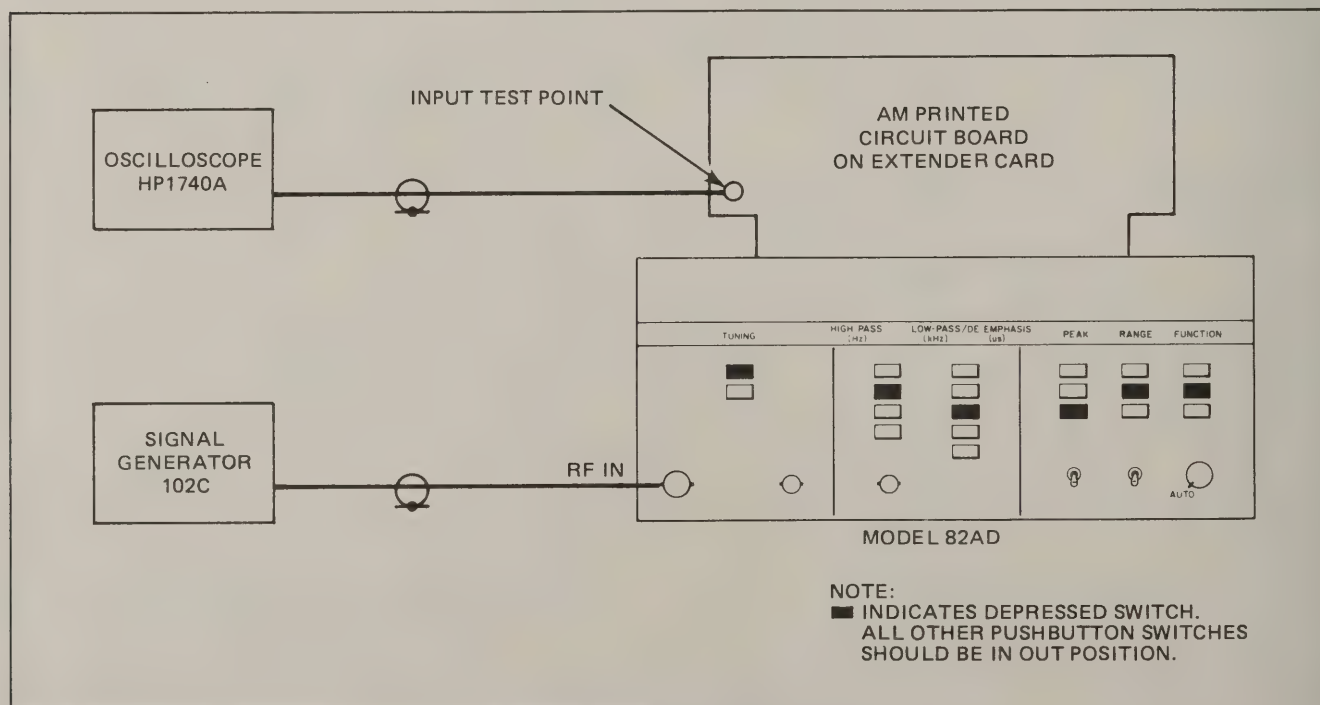

Figure 4-8 AM Adjustment Initial Test Setup
a. Connect the equipment as shown in Figure 4-8. Depress the indicated Model 82AD switches.